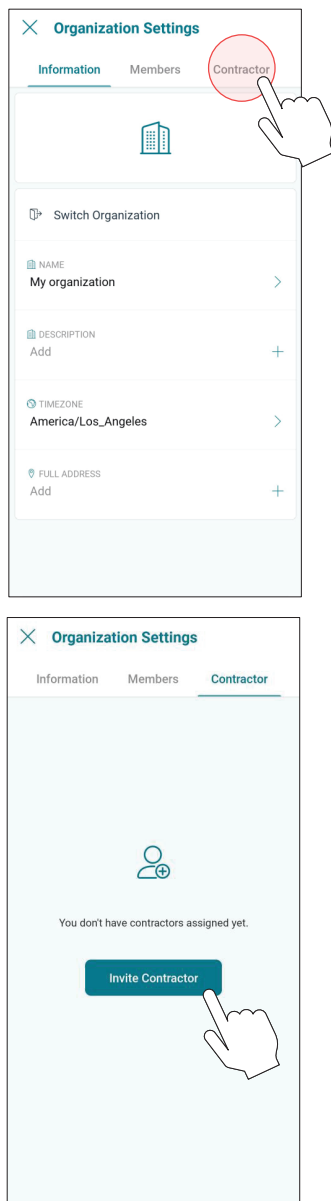

Figure 112. Click on “Invite Contractor”
5. Go to **[Contractor]** tab, and press [Invite Contractor]. See **Figure 112**.